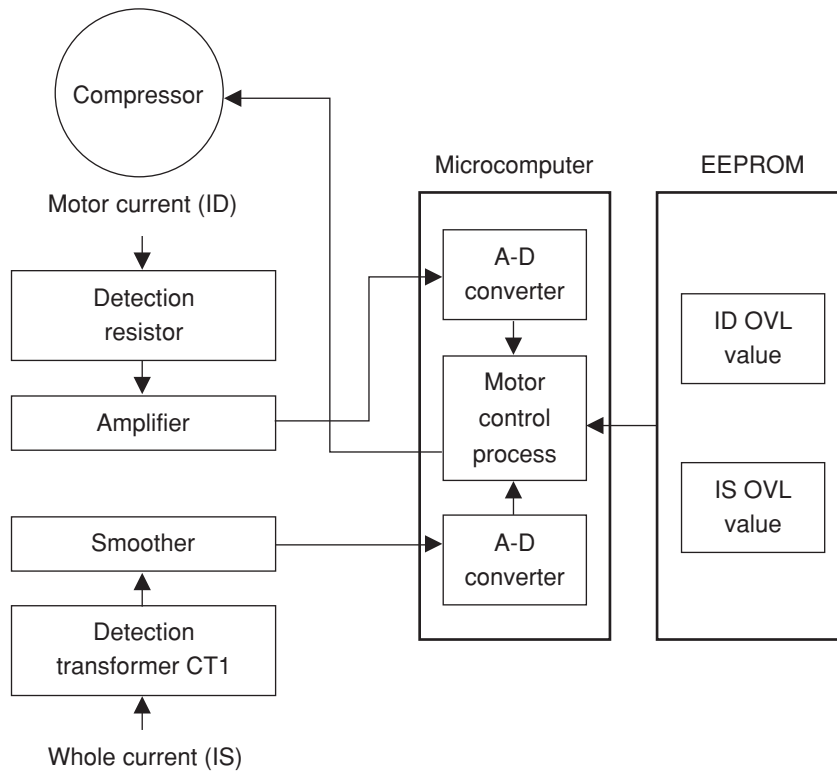
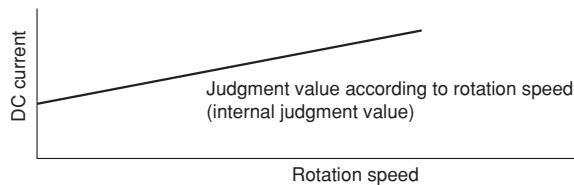

Fig. 6-1 Overload Control System
Fig. 6-4
Fig.6-1 shows the overload control system configuration and Fig. 6-4 is a characteristic diagram on overload judgement values. There are two types of control which has named IS OVL and ID OVL.
Fig. 6-4 shows the rotation speed control. When the voltage at pin ⑥ of the microcomputer exceeds the set value, the microcomputer decreases the rotation speed of the compressor and reduces the load.